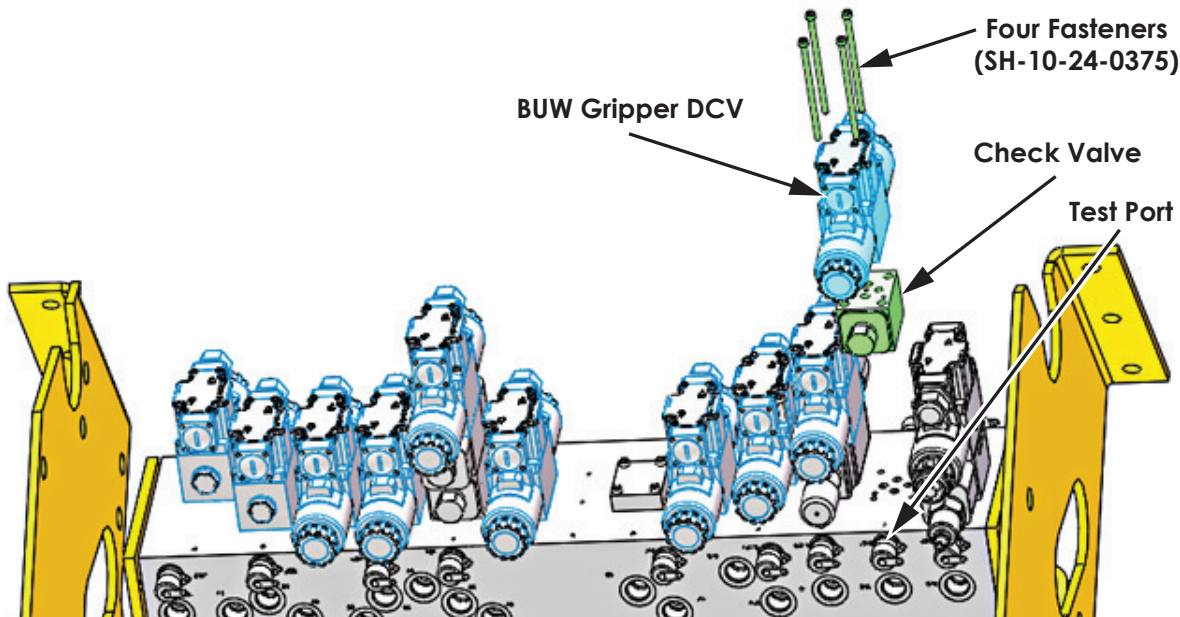

Figure 6: Installing check valve
- Using the fasteners from the kit, install the check valve assembly (P/N: H07-1010-030) between the BUW gripper DCV and the hydraulic manifold as shown in Figure 6. Torque the fasteners to 6.5 ft-lbs using Loctite® 242.